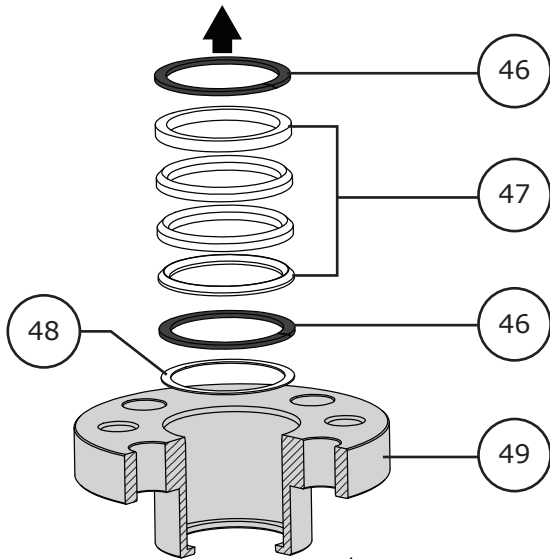

Figure 20 Live Loaded Packing Ring Removal
- 5 Using a mechanics pick set, carefully remove the anti-extrusion rings (Key 46), packing set (Key 47), and packing box ring (Key 48) from inside the bore of the packing box (Key 49). Refer to Figure 20.